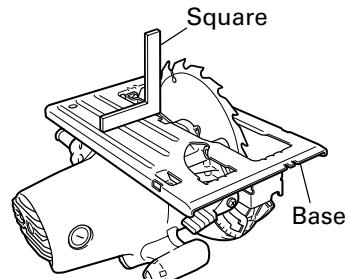

Fig. 21
- 1) Turn the base face up (Fig. 21) and loosen the wing bolt.